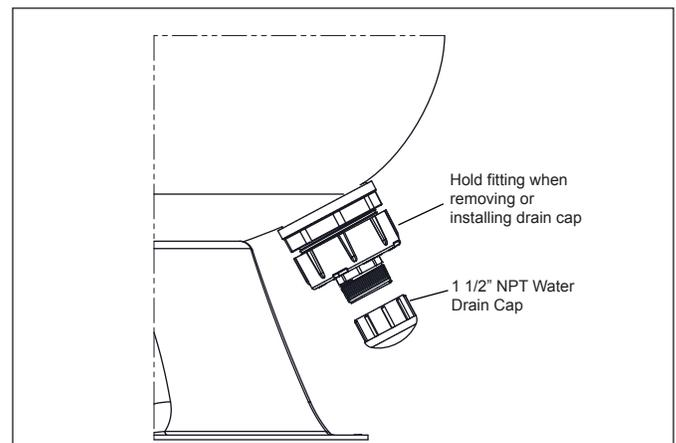

Figure 1. Water Drain Cap
1. Remove the water drain cap and drain the water from the filter. See Figure 1.